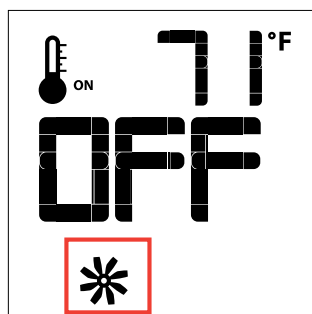
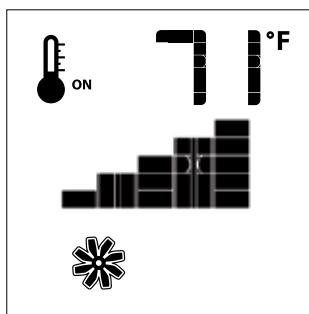

Figure 13
Figure 14
If the appliance is equipped with a hot air circulating fan, the speed of the fan can be controlled by the Proflame system. The fan speed can be adjusted through six (6) speeds. To activate this function use the Mode Key (Fig. 1) to index to the fan control icon (Fig. 13). Use the Up/Down Arrow Keys (Fig. 1) to turn on, off or adjust the fan speed (Fig. 14). A single "beep" will confirm reception of the command.